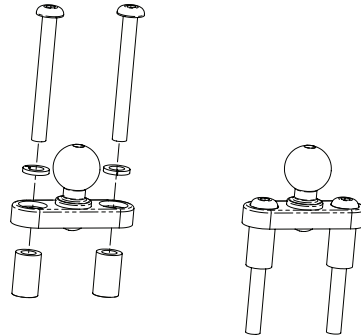

Figure 2
4. Using the *3mm Hex Key*, assemble the *Base* to the Clutch or Brake Assembly with the *Base Screws*, *Base Washers*, and *Spacers* as shown in Figure 2.